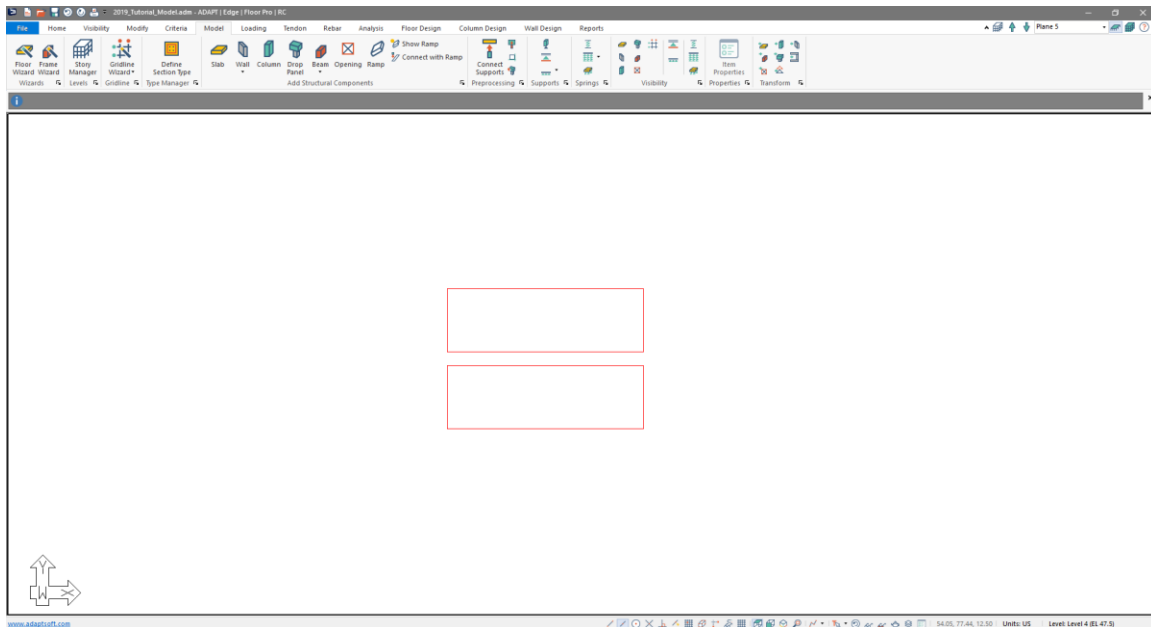

Figure 4-18
- Click on the **OK** button, the user should now see the polylines from the imported DWG as shown in **FIGURE 4-18**.